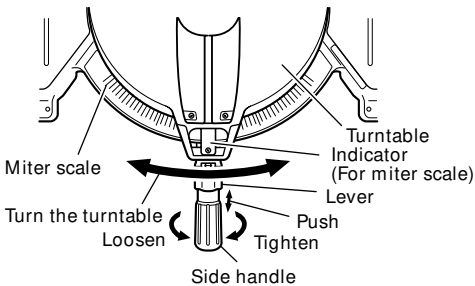

Fig. 16
- (1) Loosen the side handle and push the lever for angle stoppers. Then, adjust the turntable until the indicator aligns with desired setting on the miter scale (**Fig. 16**).
- (2) Re-tighten the side handle to secure the turntable in the desired position.